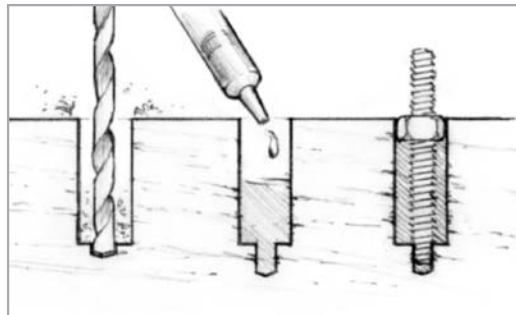

Figure 6-4 Bond threaded rods or studs into the substrate as an alternative for easily removable hardware.
2. Place a nut and washer on the studs, wet out the lower ends and push them into the epoxy filled holes. Allow the epoxy to cure thoroughly before tightening the nuts (Figure 6-4).